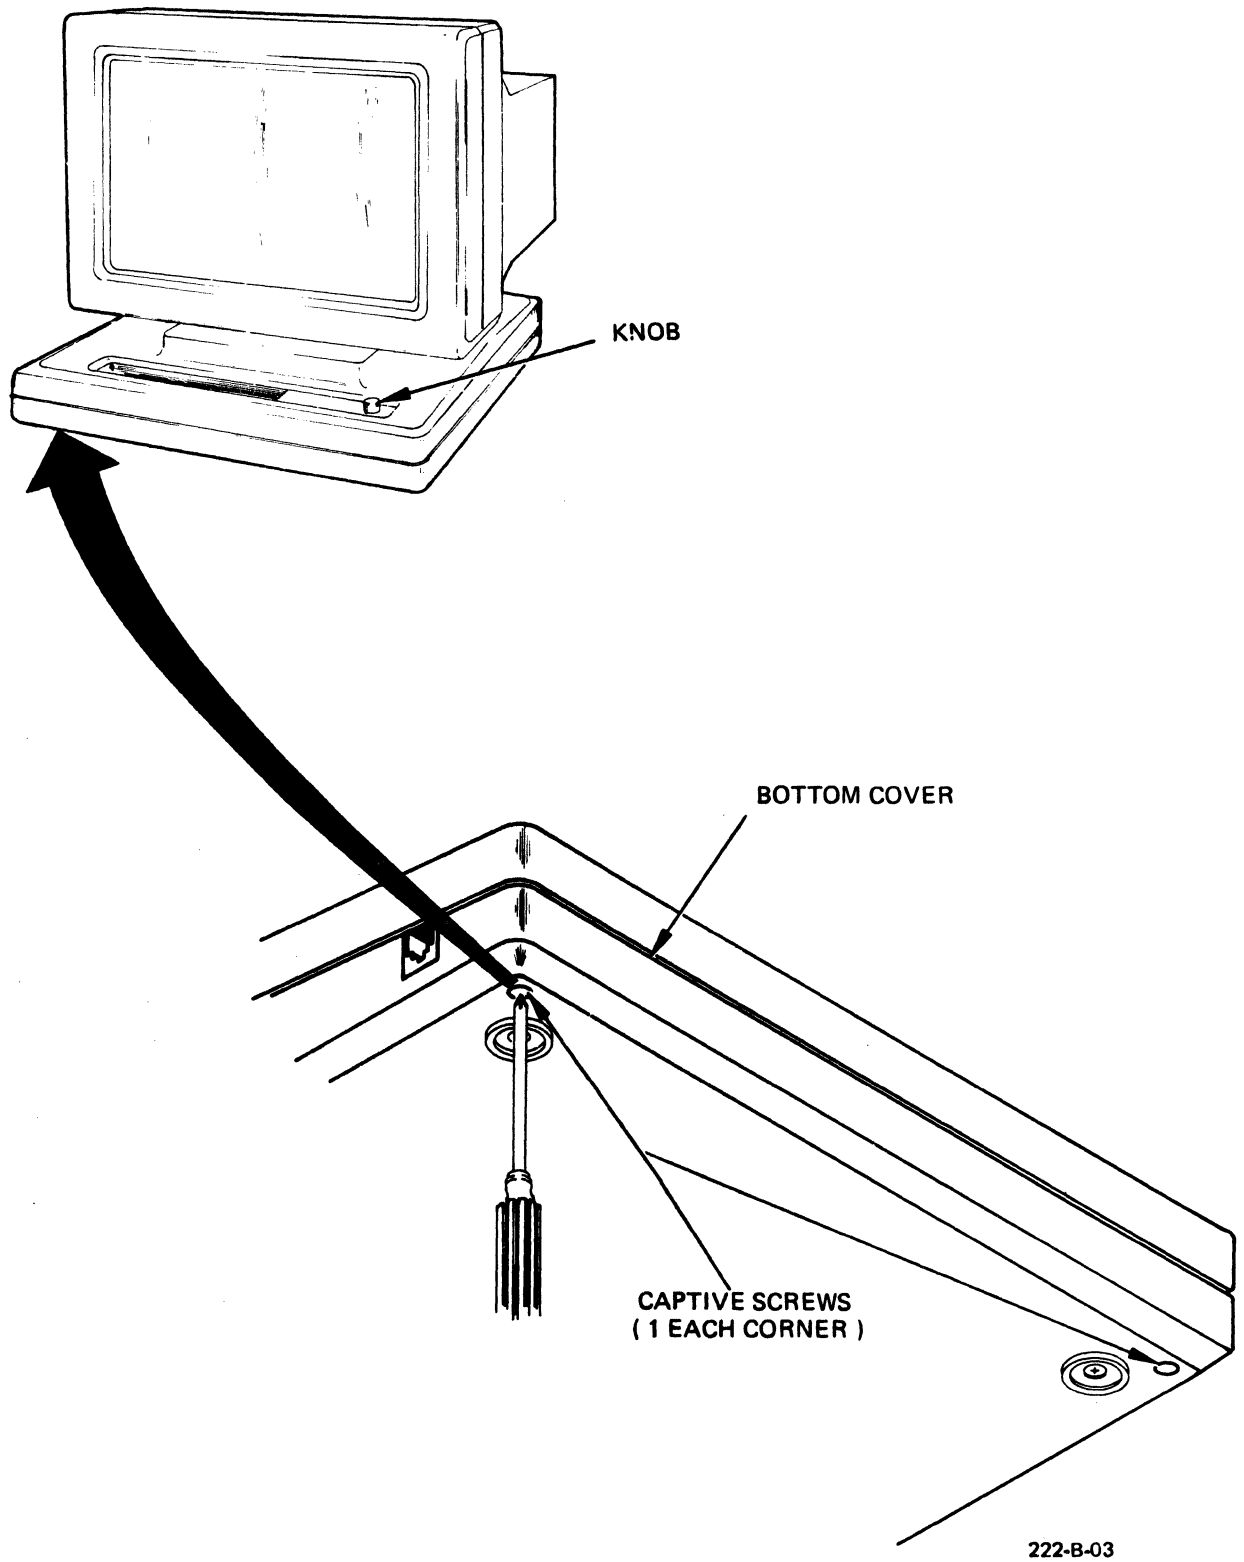

Figure 2-5. Monitor Bottom Cover Removal and Replacement
To remove the bottom cover for access to the lower monitor area (logic PCB and power supply; also graphics PCB in QVT-211GX), proceed as follows. Refer to Figure 2-5.
3. Position the bottom cover on the monitor and tighten the four recessed screws to secure it in place. Refer to Figure 2-5.